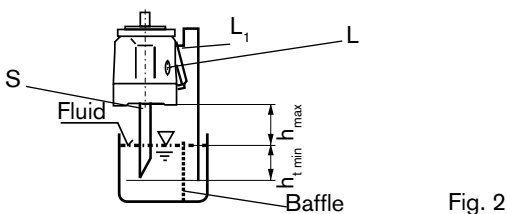

Fig. 2
- b) If the min fluid level is below the pump mounting face: pipe ports „L₁“ and „S“ acc. to fig. 2 „L“ plugged. (see also limit of conditions)
Above the reservoir as in fig. 2. Before installation fill pump housing, keeping it in a horizontal position.